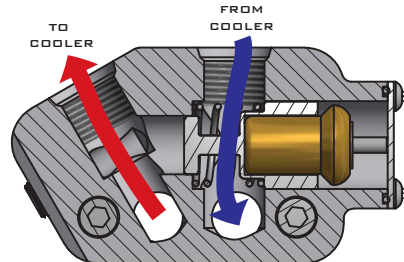

Figure 3 - Oil Path at Operating Temperature
2. At the rated temperature, the bypass valve begins to close, forcing oil through the cooler as illustrated in Figure 3.